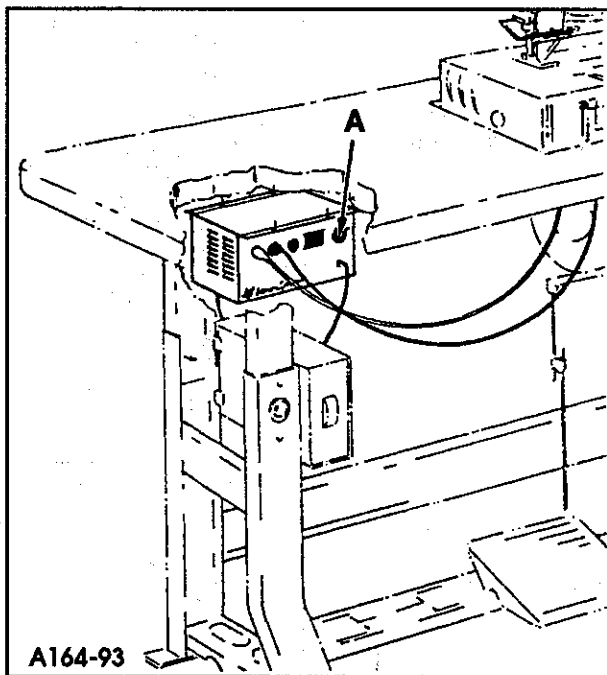
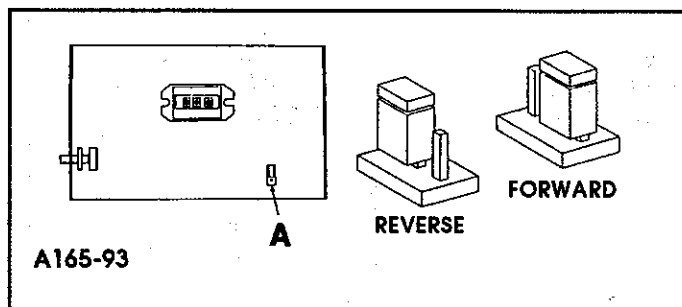

FIG. 19
FIG. 20
If the rotation of the metering device is incorrect turn off power supply (A, Fig. 19) and remove control box front cover. Reverse the jumper JU1 (A, Fig. 20).
1. Turn off the main power (A, Fig. 19), the control box has a 220 volt capacity, shock could occur.